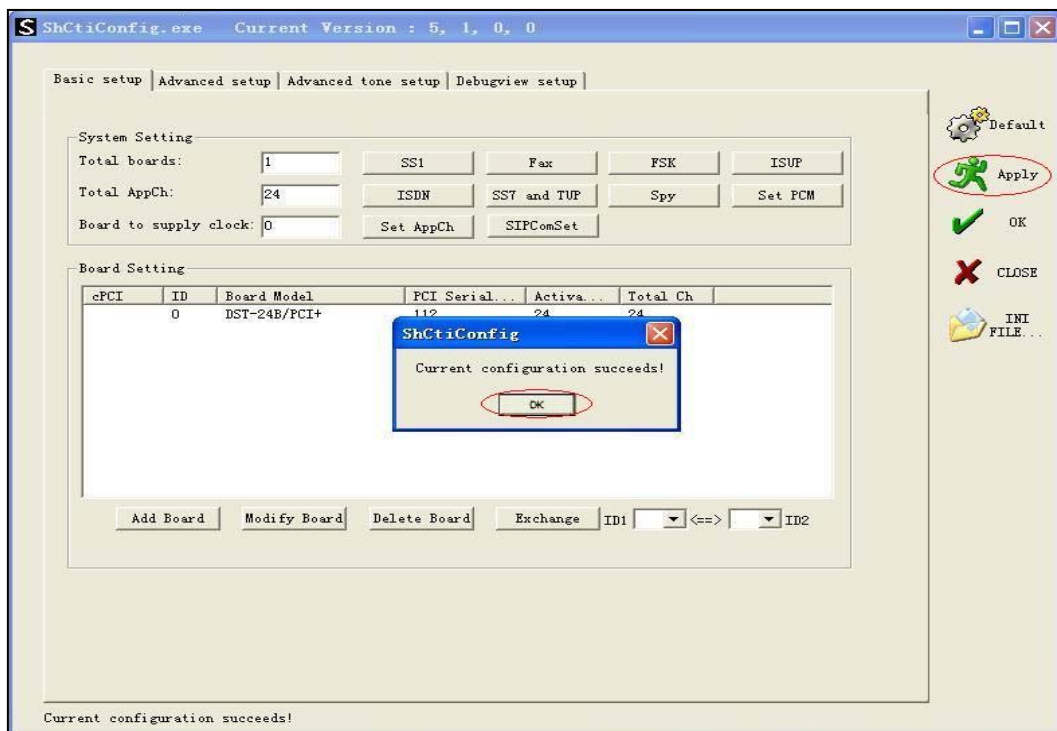

Figure 3-11
Step 9 : Finally click on 'Apply' to apply the settings made above and the message 'Current configuration succeeds' will pop up as shown in Figure 3-11 if all settings are done properly.